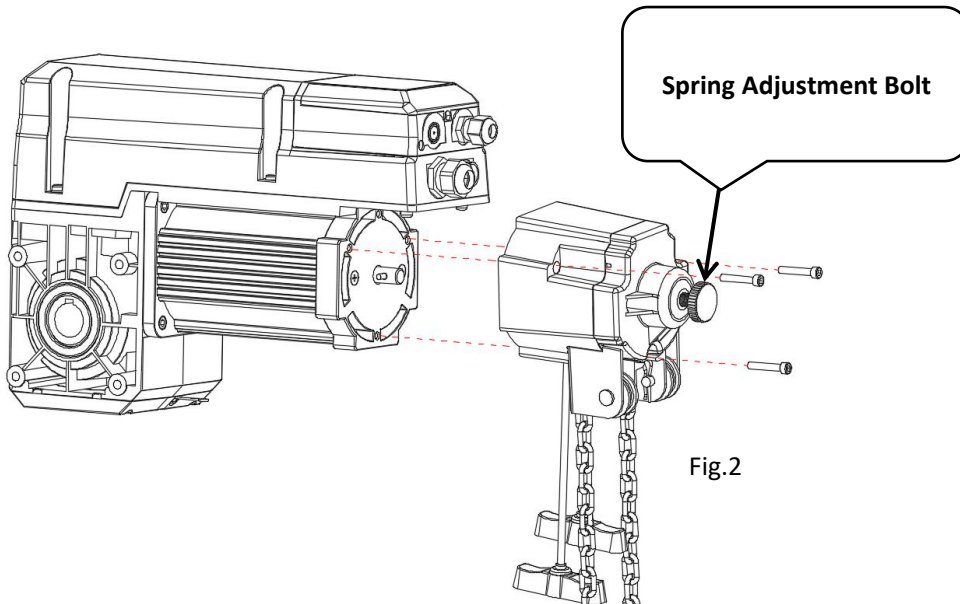

Fig.2
Step 2: Attach the chain hoist assy to the end of the motor, use a 4mm hex wrench to pass the three hex bolts through the chain hoist assy, and lock and fix it on the motor. (Fig.2)